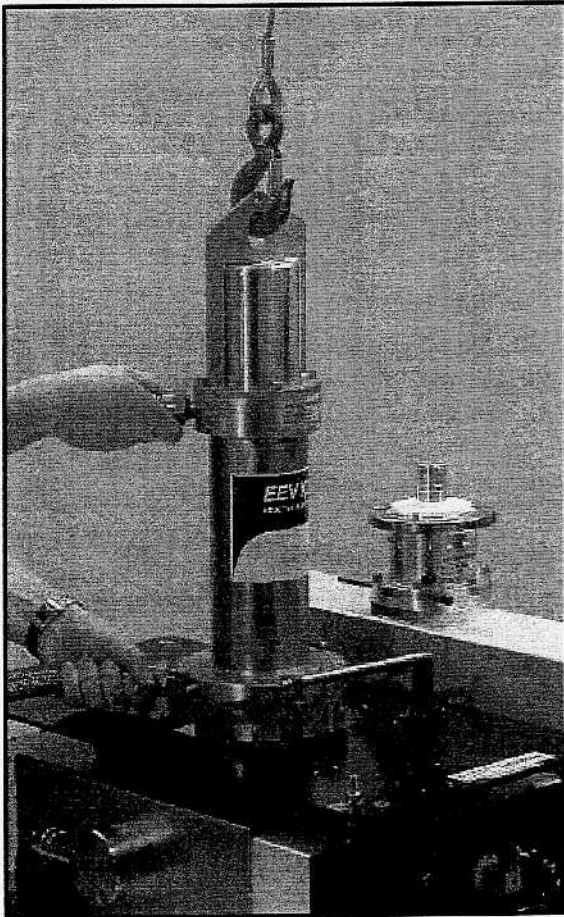

Fig. 29a
6. Connect a suitable hoist to the lifting point at the top of the tube, and carefully raise the tube with the hoses supported to help keep the tube vertical (see Fig. 29a).